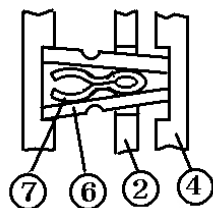

Fig.5-15
The synchro-hub is composed of the hub(2), block pin(3),synchro-ring(4),thrust piece(6),and spring(7).Synchro-ring(4)has a conical friction surface on its circumstance.Block pin(3) prevents hub(2) from sliding until the torque, imposed upon the pin due to the speed differential caused when shifting gears,disappears. Thrust piece(6)is composed of an outer split pin and an inner and is held together as one unit by the expansion force of the spring. It has a tapered shape as shown in Fig.5-15